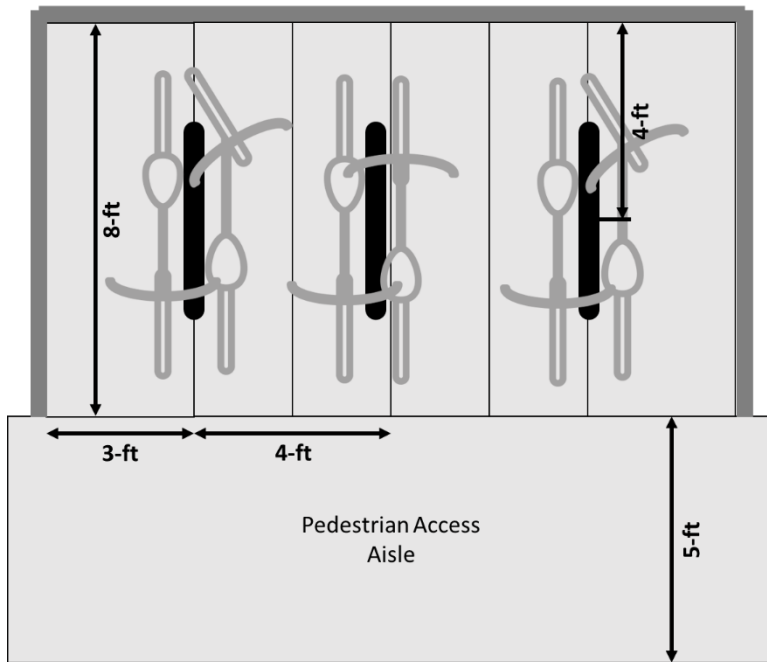

Figure 1
5. *Spacing Between Bicycle Racks*. Proper layout of bicycle racks is essential to ensure that they will safely and conveniently accommodate the intended number of bicycles. Layout must follow these minimum dimensions (see Figure 1 for example):